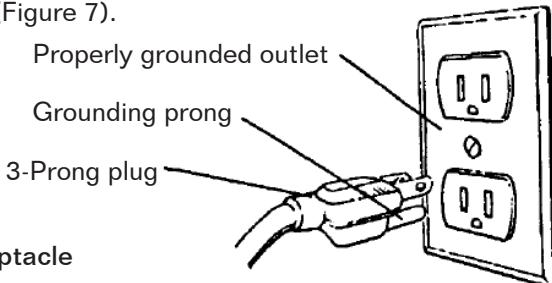

Figure 7
Refer to Figures 7, 8 and 9, pages 4 and 5.
- This tool is equipped with an approved 3-conductor cord rated at 150V and a 3-prong grounding type plug (Figure 7) for your protection against shock hazards.
- Grounding plug should be plugged directly into a properly installed and grounded 3-prong grounding-type receptacle, as shown (Figure 7).
The sander is assembled with motor and wiring installed. The electrical wiring schematic is shown in Figure 7.